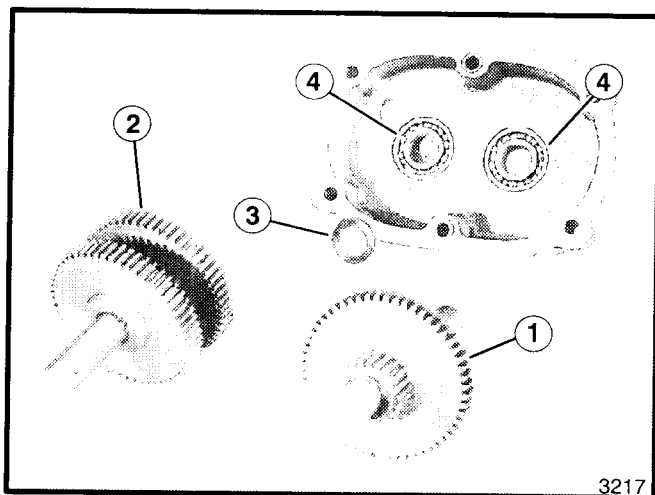

Figure 34. Disassembled Transmission
6. Remove the gears, shafts and spacer. Also remove the bearings and grease seals (see figure 34).